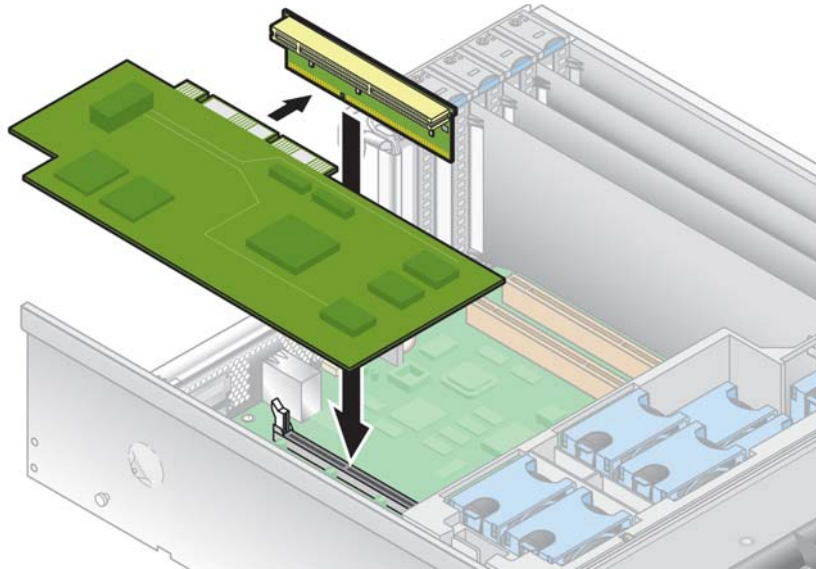

FIGURE 5-8 Installing the Horizontal PCI Card and Riser
7. Install the new PCI card in the riser assembly (see FIGURE 5-8).